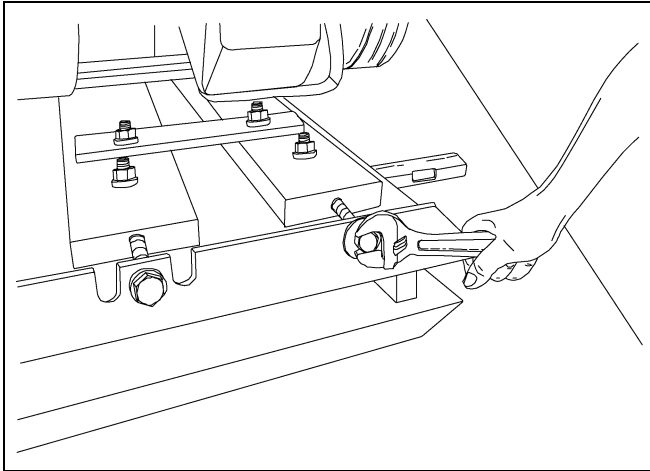
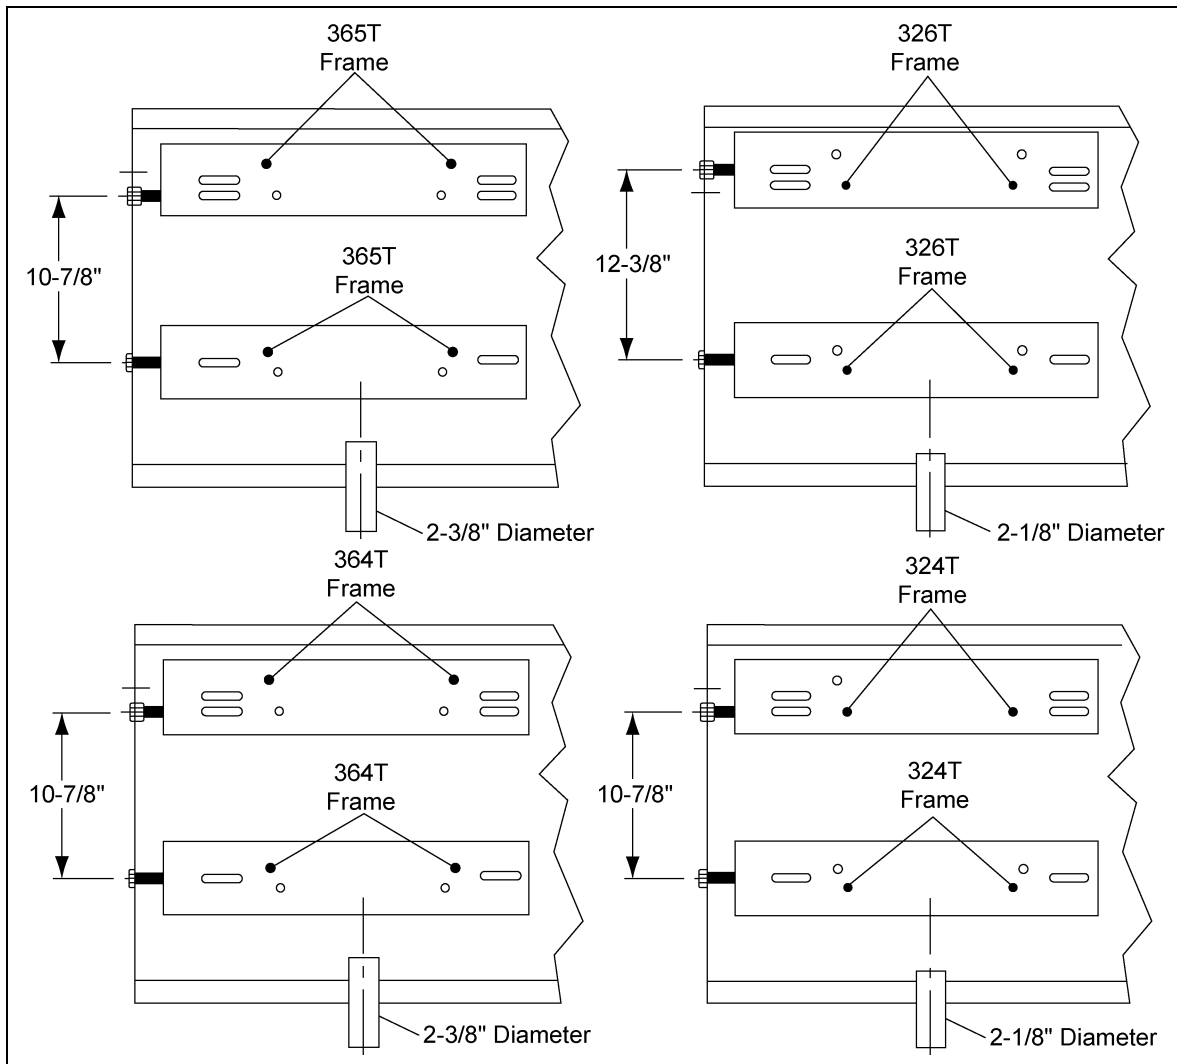

Figure 7D
Figure 7M
3. Check the motor nameplate for the correct motor frame size. Then refer to Figure 7M on Page 23 to determine proper mounting holes and spacing of the motor mount channel. The spacing of the motor mount channels is changed by moving the channel to the proper notch cut into the main base of the blower platform. See Figure 7D and refer to Figure 7M on Page 23. Finish by bolting the motor securely to the channels. Leave the four (4) 1/2" carriage bolts loose, holding the channels to the main frame.
5. Place the matching set of V-belts on the pulleys. Tighten the belts by evenly turning the cap screws clockwise. Belts should have 3/8" deflection at 10 pounds pressure per belt. (See Figure 7D.)